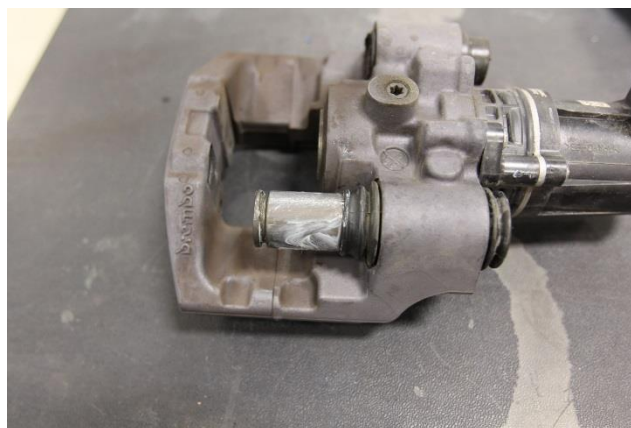

Figure 23
33. Apply Klueber GLK 1PF lubricant to the exposed surface of the lower sliding pin (Figure 23).